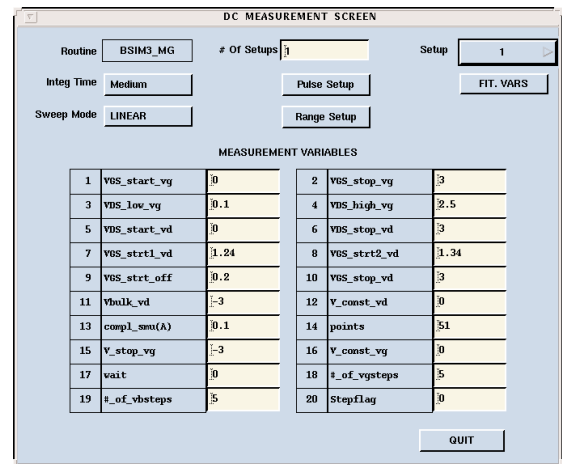

Figure 1. SOI BSIM3_MG routine measurement variables screen.
A. The BSIM3_MG routine in SOI module of *UTMOST* III can be used to extract SOI model parameters. The SOI BSIM3_MG routine operation is similar to the one in MOS module. However the "Measurement Variables" (Figure 1) and biasing of the SOI device is unique.